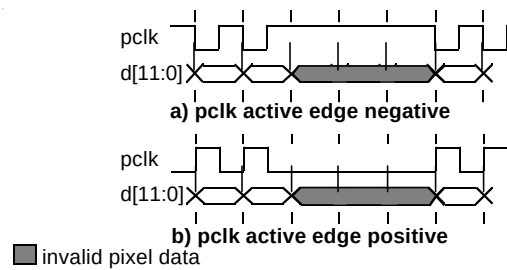

Figure 36. pclk in Data Ready Mode
- In data ready mode, the pixel clock output pin (*pclock*) will produce a pulse with a specified level every time valid pixel data appears on the digital video bus $d[11:0]$ as shown in Figure 36.